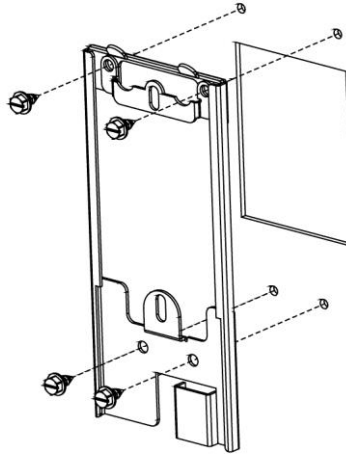

Figure 3: Attach Mounting Bracket to Fume Hood Front Panel
3. Center the mounting bracket open area on the hole. Attach the mounting bracket to the fume hood front panel using four sheet metal screws (screws not provided) (Figure 3).